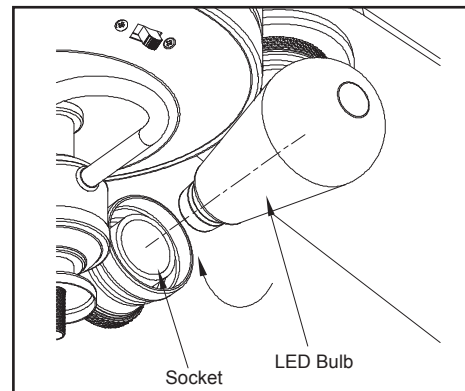

Figure 17
5. With the power off, install the two LED bulbs (provided) into the light bulb sockets. (Figure 17)